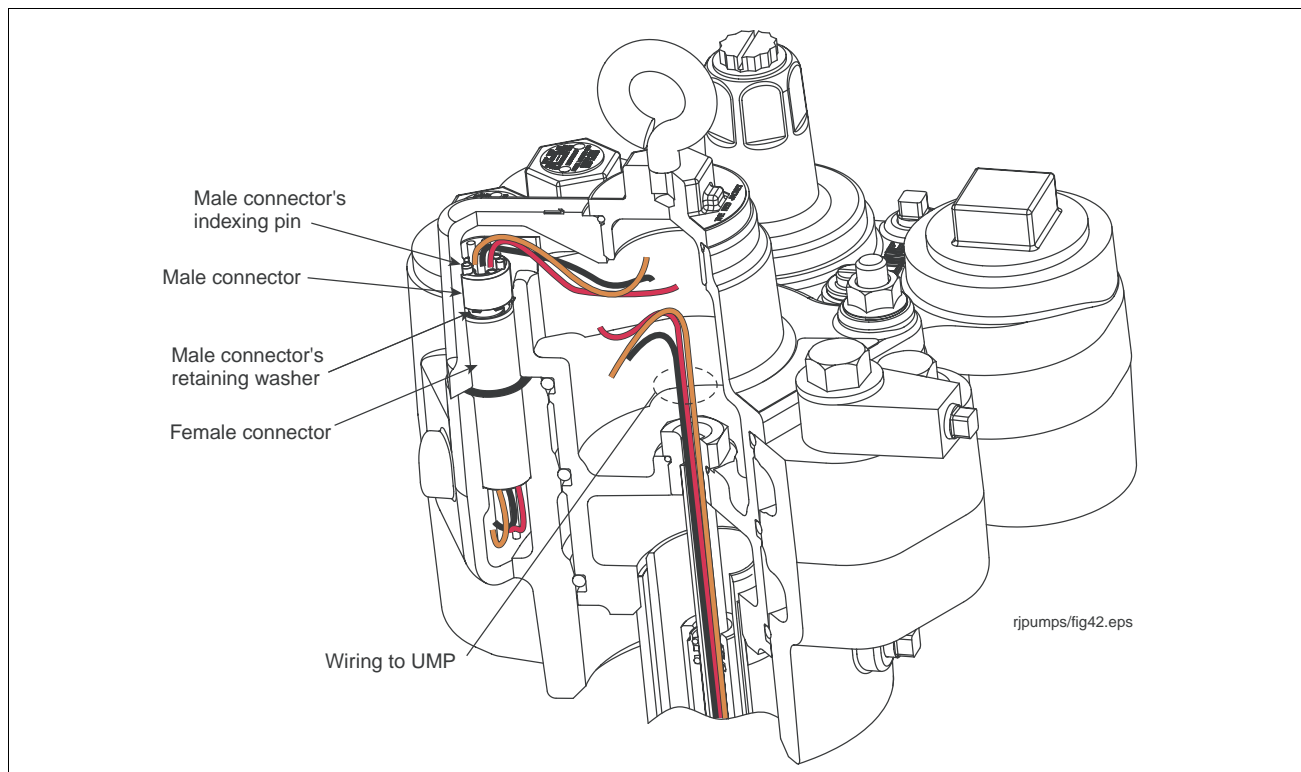

Figure 38. Packer-to-manifold wiring connectors
4. Locate the male connector inside the packer (see Figure 38).
20. Get the 0.862" ID x 0.103" wide o-ring from the connector kit and lubricate it with petroleum jelly. Insert this o-ring in its groove in the manifold around the female connector (see Figure 38 on page 42).